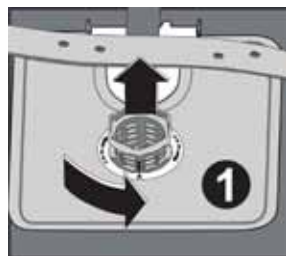

fig. 14
2. Turn the microfilter anticlockwise and then lift it out as in figure 14.